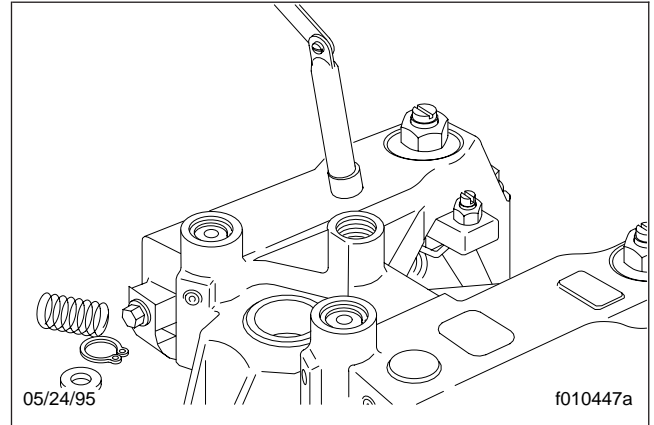

Fig. 3, Remove the Piston
4. Using a magnet, remove the piston from the accumulator bore. See Fig. 3.